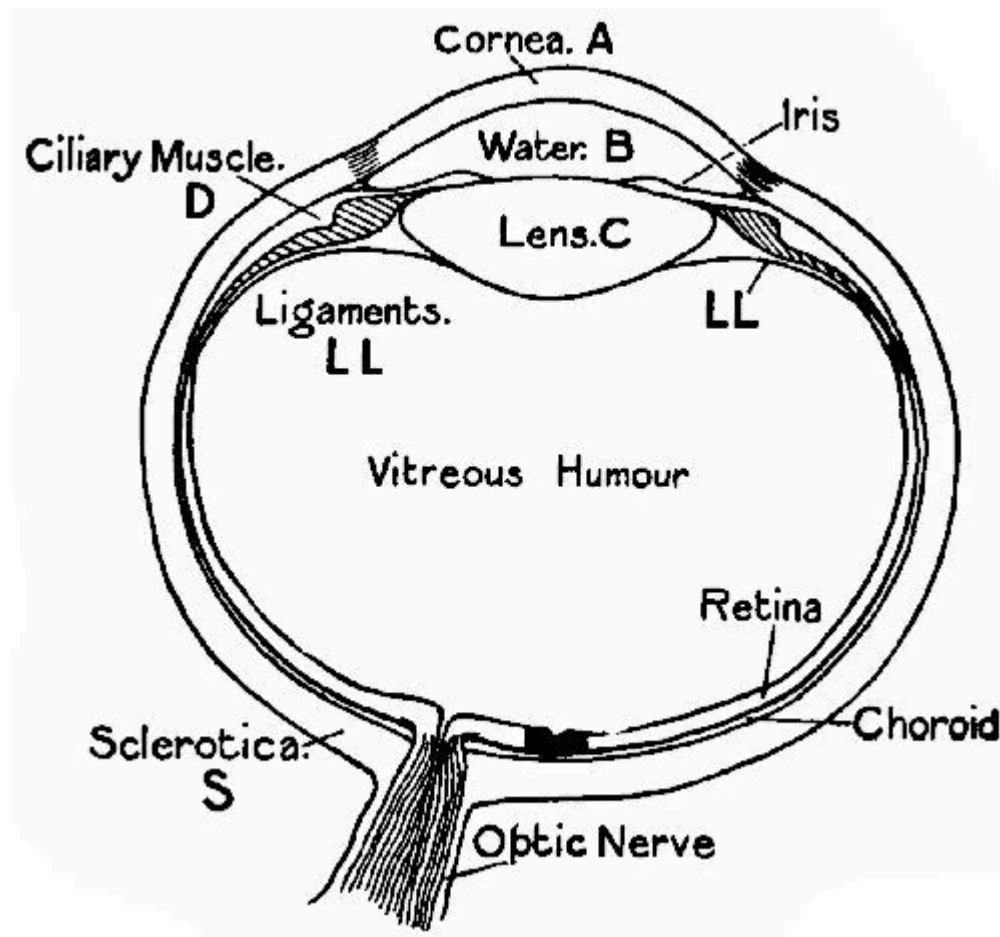

FIG. 116.—Section of the human eye.
The eye (Fig. 116) is nearly spherical in form, and is surrounded outside, except in front, by a hard, horny coat called the *sclerotica* (s). In front is the *cornea* (A), which bulges outwards, and acts as a transparent window to admit light to the lens of the eye (C). Inside the sclerotica, and next to it, comes the *choroid* coat; and inside that again is the *retina*, or curved focussing screen of the eye, which may best be described as a network of fibres ramifying from the optic nerve, which carries sight sensations to the brain. The hollow of the ball is full of a jelly-like substance called the *vitreous humour*; and the cavity between the lens and the cornea is full of water.
Returning for a moment to the diagram of the eye (Fig. 116), we notice a black patch on the retina near the optic nerve. This is the "yellow spot." Vision is most distinct when the image of the object looked at is formed on